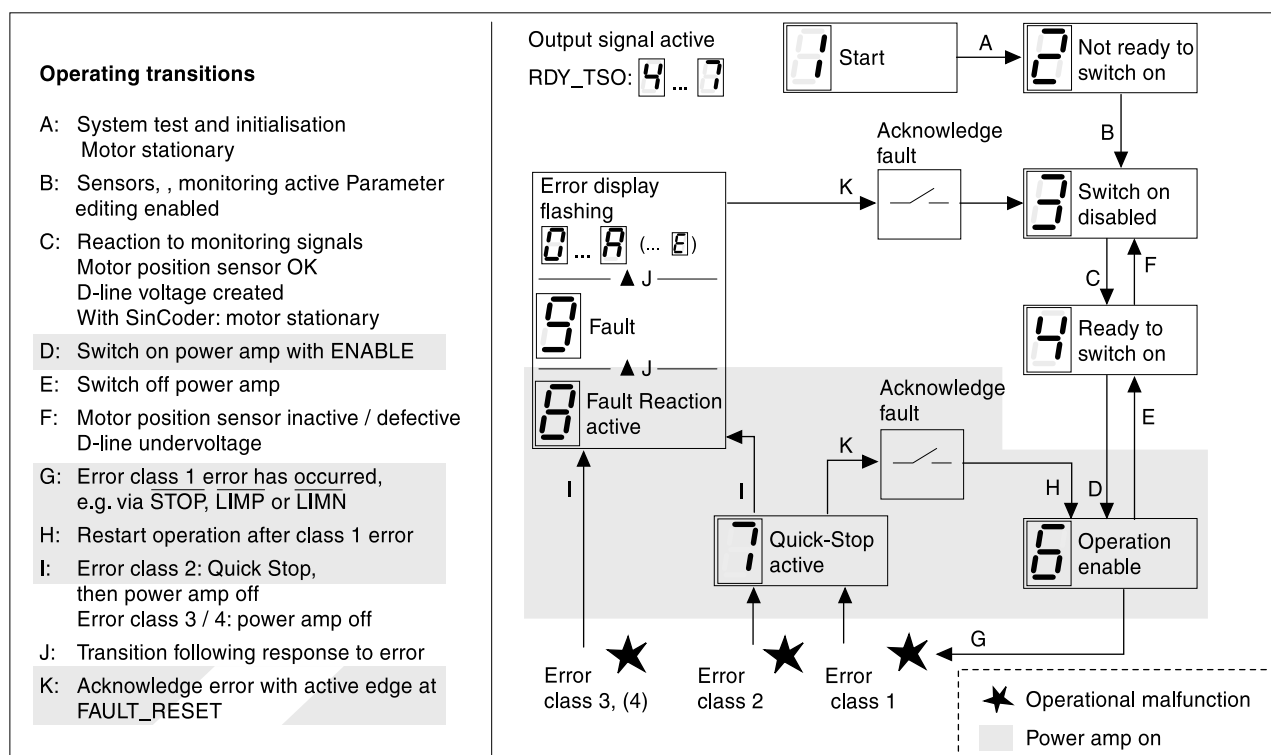

Fig. 8.1 Operating states and transitions of the controller
*Operating transitions* Operating transitions and error reactions follow a fixed sequence. This sequence is shown in Fig. 8.1.